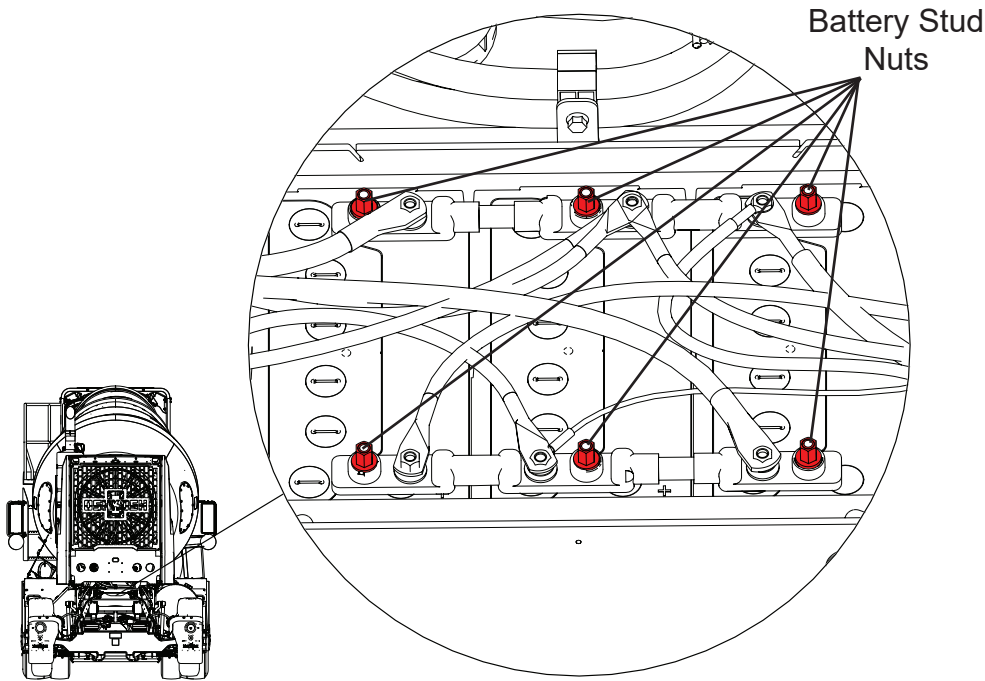

Figure 1
3. Loosen and remove battery stud nuts one at a time and install new battery stud nuts. See Figure 1.